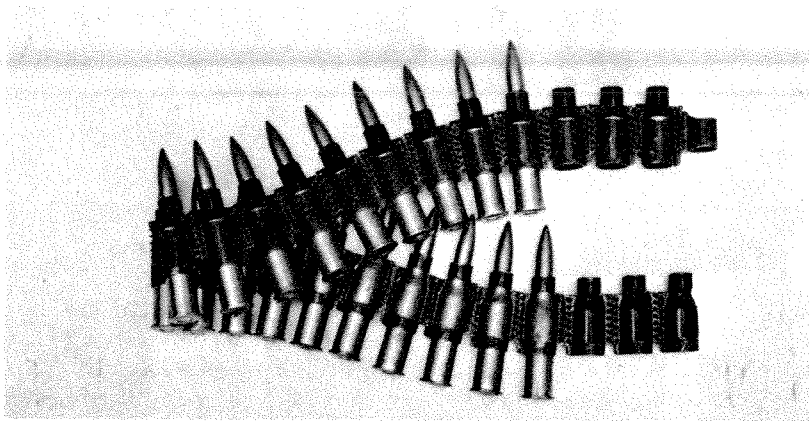

Figure 2-1. Proper insertion of round in belt.
b. To hand load the belt, insert 7.62 mm x 54R rounds, one at a time, into each opening of the belt from the large section of the belt to the small section. Push the round completely forward into each opening. A round is completely seated when the front ridge of the cartridge is aligned with the front of the smallest portion of the belt (fig. 2-1).